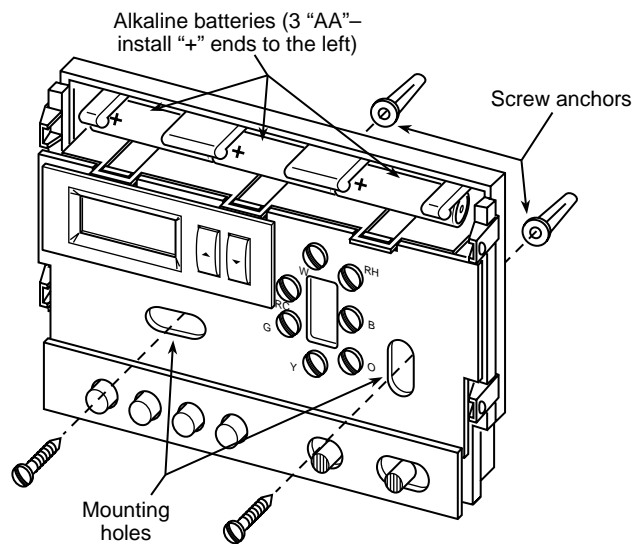

Figure 2. Thermostat base
5. Fasten base loosely to wall, as shown in fig. 2, using two mounting screws. Place a level against bottom of base, adjust until level, and then tighten screws. (Leveling is for appearance only and will not affect thermostat operation.) If you are using existing mounting holes, or if holes drilled are too large and do not allow you to tighten base snugly, use plastic screw anchors to secure subbase.
This thermostat requires 3 “AA” alkaline batteries to operate. Batteries are included. Install the batteries along the top of the base (see fig. 2). The batteries must be installed with the positive (+) ends to the left.